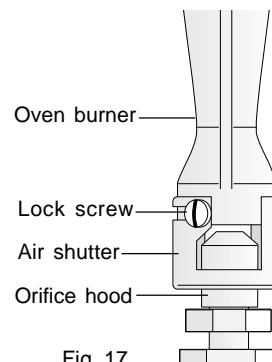

Fig. 17
- If adjustment to the air shutter is necessary, locate the broiler burner air shutter, loosen air shutter lock screw, and adjust to obtain optimum flame (Fig. 17). This will normally be completely open for LP/Propane gas. If the flame is yellow in color, increase the air shutter opening size. If the flame is a distinct blue, but lifting away from the burner, reduce the air shutter opening size. Tighten air shutter lock screw.